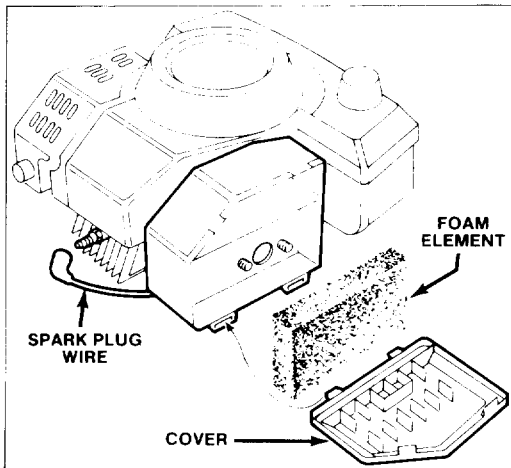

Figure 10
1. Stop engine and pull wire off spark plug (Fig. 10).
2. Lift tabs at top of air cleaner cover and pivot cover down. Clean cover thoroughly (Fig. 10).
3. If outside of foam element is dirty, remove it from air cleaner body (Fig. 10). Clean thoroughly.
2. Clean around spark plug and remove plug from cylinder head (Fig. 10).